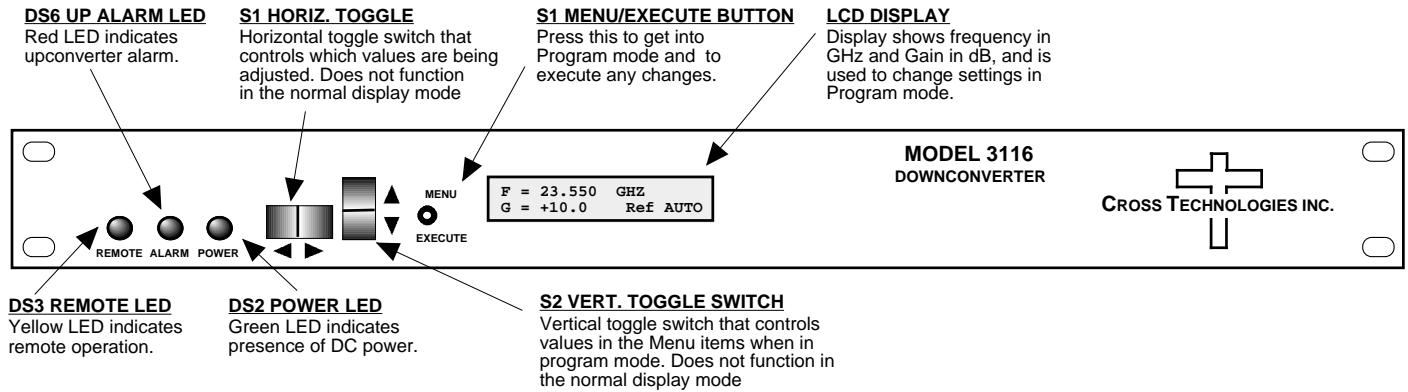

FIGURE 2.2 3116-236#-1200 Front Panel Controls and Indicators
Figure 2.2 shows the front panel controls and indicators.
5. Be sure DS2 (green, DC Power) is on and DS6 (red, Alarm) is off (Figure 2.2).
Alarm indications appear on the LEDs (see Figure 2.2).